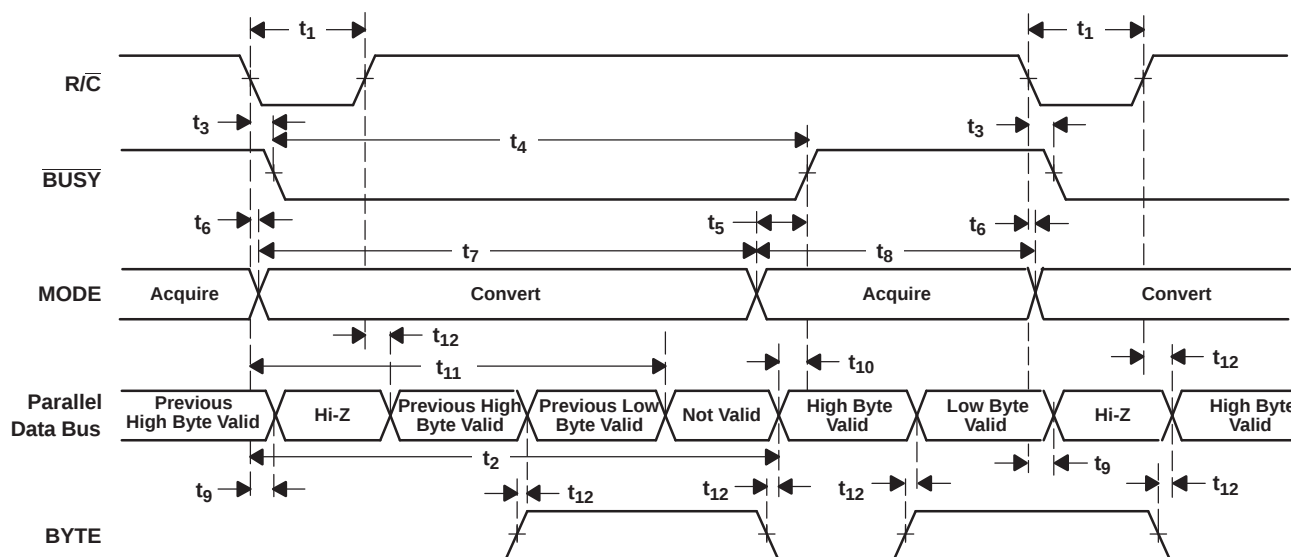
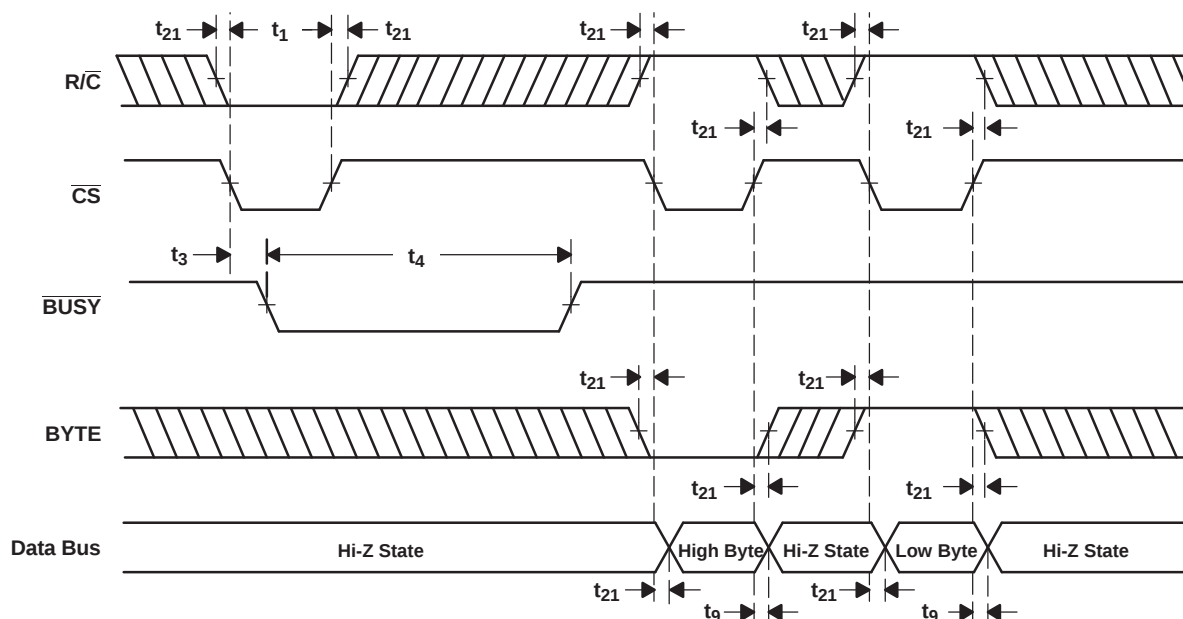

Figure 33. Conversion Timing With Parallel Output ($\overline{\text{CS}}$ and DATACLK Tied Low, $\overline{\text{EXT/INT}}$ Tied High)
Figure 34. $\overline{CS}$ to Control Conversion and Read Timing With Parallel Outputs
The ADS8507 begins tracking the input signal at the end of the conversion. Allowing 25 μ s between convert commands assures accurate acquisition of a new signal. Refer to Table 2 and Table 3 for a summary of $\overline{\text{CS}}$, $\text{R}/\overline{\text{C}}$, and $\overline{\text{BUSY}}$ states, and Figure 33, Figure 34, Figure 35, Figure 36, Figure 37, Figure 38, and Figure 39 for timing diagrams.
(1) See Figure 33 and Figure 34 for constraints on data valid from conversion N-1.
After conversion N is completed and the output registers have been updated, $\overline{\text{BUSY}}$ (pin 24) goes high. Valid data from conversion N is available on D7-D0 (pin 9-13 and 15-17). $\overline{\text{BUSY}}$ going high can be used to latch the data. Refer to Table 5 and Figure 33 and Figure 34 for timing specifications.
After conversion N has been initiated, valid data from conversion $N-1$ can be read and is valid up to 12 μs after the start of conversion N . Do not attempt to read data beyond 12 μs after the start of conversion N until $\overline{BUSY}$ (pin 24) goes high; this may result in reading invalid data. Refer to Table 5 and Figure 33 and Figure 34 for timing constraints.